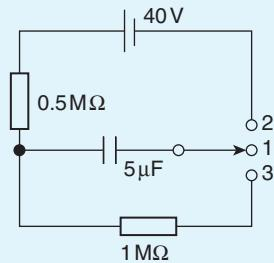

Figure 18.9
12. (a) In the circuit shown in Fig. 18.9, with the switch in position 1, the capacitor is uncharged. If the switch
S is moved to position B, the current value decreases, causing a decrease in the strength of the magnetic field. Flux linkages occur, generating a voltage  $v_L$ , equal to  $L(di/dt)$ . By Lenz's law, this voltage keeps current  $i$  flowing in the circuit, its value being limited by  $R$ . Thus  $v_L = v_R$ . The current decays exponentially to zero and since  $v_R$  is proportional to the current flowing,  $v_R$  decays exponentially to zero. Since  $v_L = v_R$ ,  $v_L$  also decays exponentially to zero. The curves representing these transients are similar to those shown in Fig. 18.9.